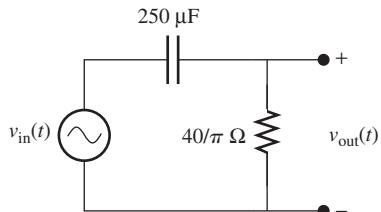

FIGURE P7.19 Circuit for Problem 7.19.
- 7.19 (A)** Sketch the Bode plot of the transfer function for the circuit shown in Figure P7.19.